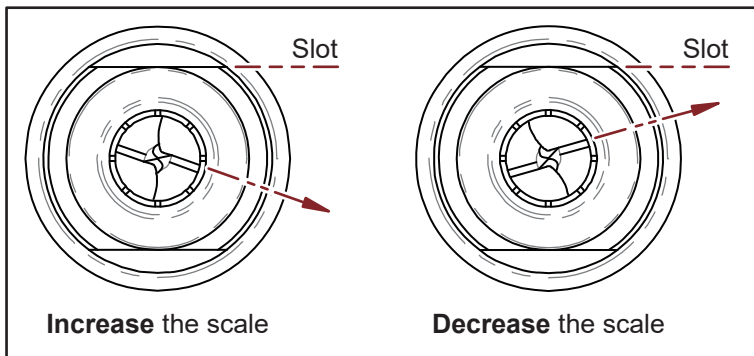

Fig. 6-6
- ✘ If the drill's cutting edge is not parallel to the slot of clamping nut, adjust the scale and reposition the drill. (Fig. 6-6)